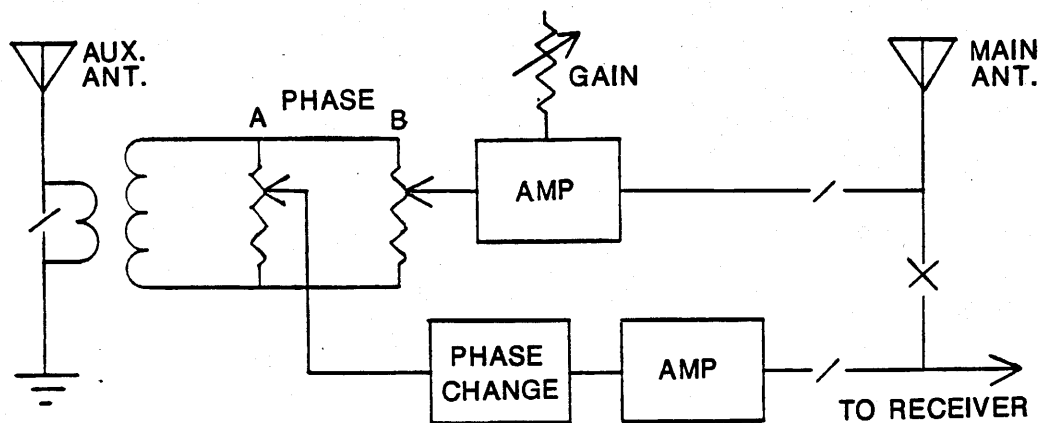

FIGURE 1 PRINCIPLE OF OPERATION OF THE S.E.M. 'ELIMINATOR'
S.E.M. does not provide a schematic, but did send a sketch (Figure 1) to show the principle on which the design is based. Details of bypass switching are not shown.